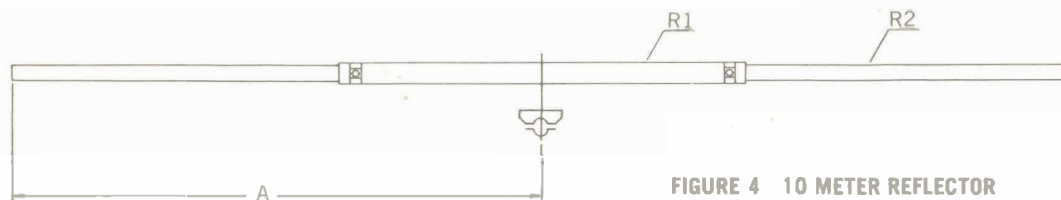

FIGURE 4 10 METER REFLECTOR
**IMPORTANT NOTE:** Compression clamps will indent both mated tubings so be sure the proper measurement is made before securing. (See clamp illustration by figure 4).
10 Meter Reflector. Bundle together and tape as R2. See Figure 4.